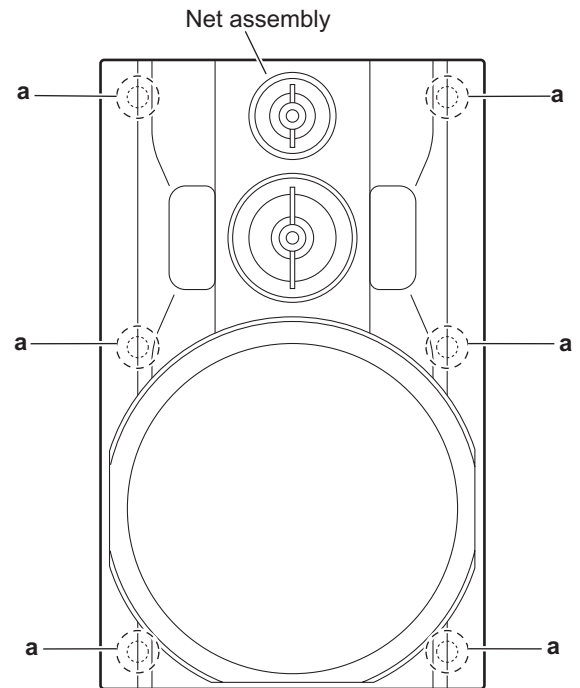

Fig.1
#### 3.4.1 Removing the front panel assembly (See Figs.1 to 3)
- (1) Insert the tip of a flat-bladed screwdriver or similar tool into the space between the speaker main body and front panel assembly, and lift the front panel assembly little by little to remove the joint sections a. (See Figs.1 and 2.)